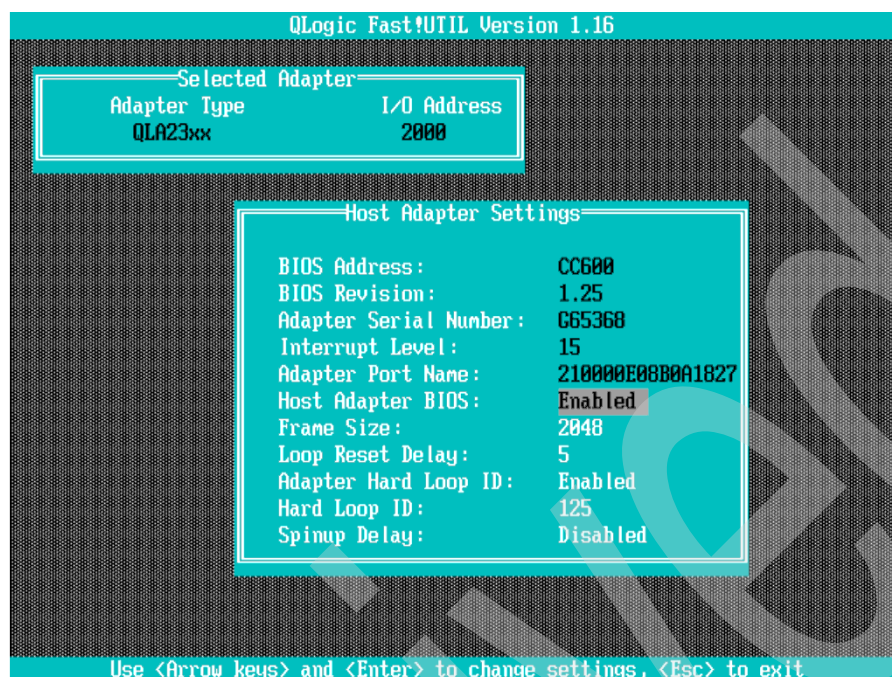

Figure 28-5 Host Adapter Settings
3. Select **Configuration Settings** and then **Host Adapter Settings** to bring up the Adapter Setting window, as shown in Figure 28-5.